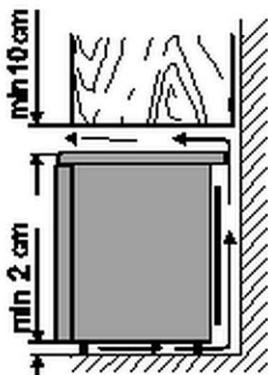

Fig. 2: Side view
- Maintain a minimum clearance of 10 cm between the top side of the appliance and objects that are above it (e.g., a cabinet) (Fig. 2).